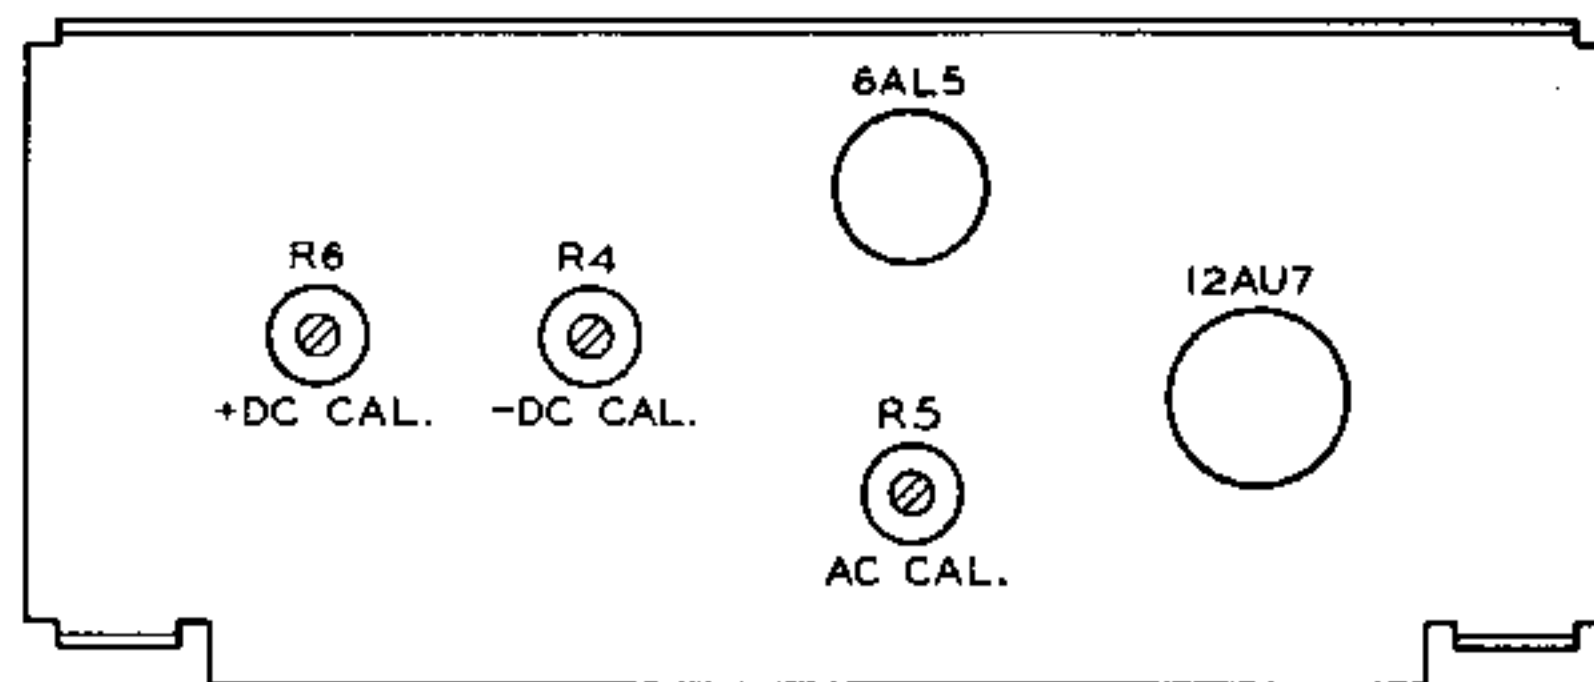

Figure 9. Locations of calibrating controls
The schematic diagram of the WV-98A is shown in Figure 6. Locations of calibration controls are shown in Figure 9. If it becomes necessary to replace any of the component parts, only RCA replacement parts or their equivalents should be used. Replacement parts should be ordered from a local RCA tube and parts distributor and the code and serial numbers of the instrument, as well as the stock number of the replacement parts, should be specified in the order. Stock numbers and descriptions should be obtained from the Replacement Parts List on pages 20 and 21.
7. With a screw driver, adjust the "+DC CAL" potentiometer R6 to bring the pointer exactly to the 50-volt mark on the scale. (See Figure 9 for location of calibration controls.)
6. Apply 50 volts, 60 cps between the ground lead and the tip of the probe. The meter reading should be within $\pm 3\%$. If the accuracy is not within this figure, adjust the AC CAL control, R5, (See Figure 9 for locations of calibrating controls) to give full scale deflection of the meter pointer.